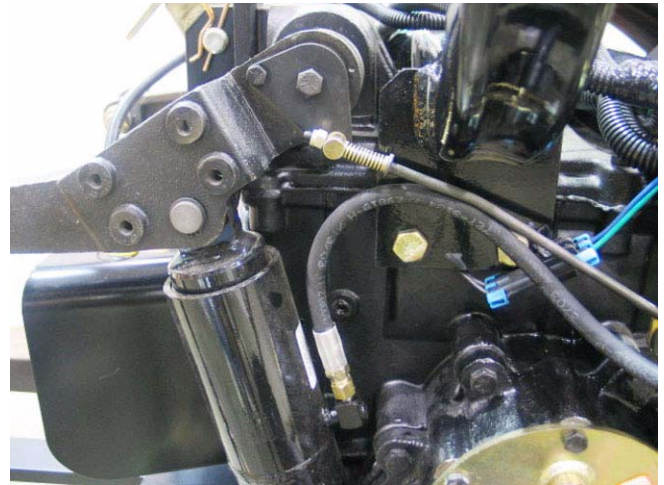

Figure 8.14
- 8.14. Lower the lift arms to the bottom of their travel, and confirm that the lift cylinder is fully retracted. See Figure 8.14.